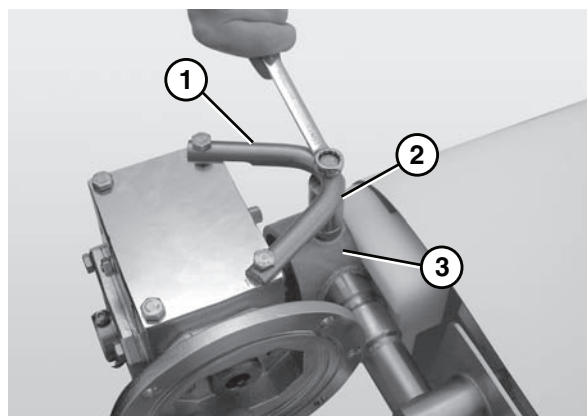

Figure 5
3. Attach the upper gearhead mounting bar (**Figure 5, item 1**) and the horizontal drive spacer (**Figure 5, item 2**) to the motor mounting bracket (**Figure 5, item 3**).